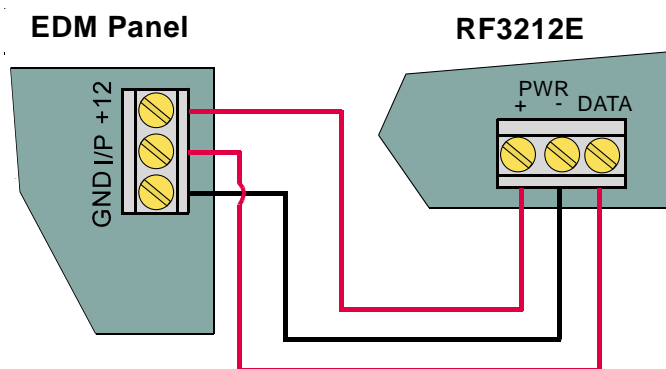

Figure 7 - Connecting to the EDM Panel
- Connect the Receiver Terminals to the Control Panel Terminals as shown in Figure 7 using 0.8 mm diameter or larger wire. Wire length between the Receiver and the Control Panel should not exceed 300 meters.